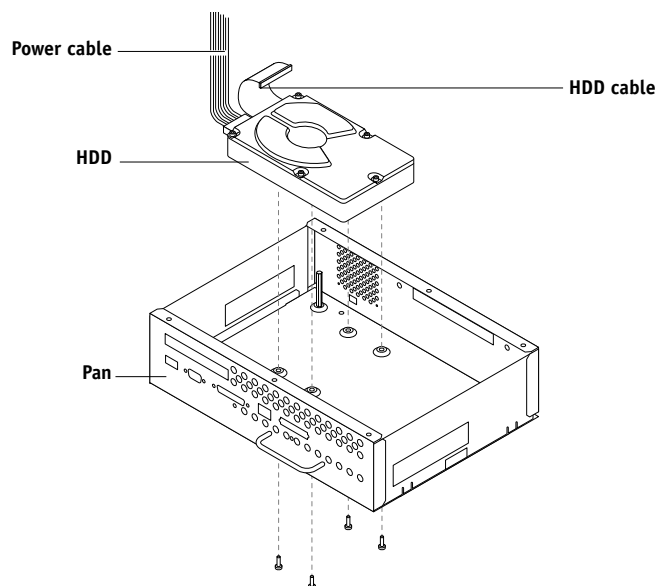

FIGURE 4-13 Replacing the HDD
2. Shut down the copier and access the E-700 as described on page 4-3.**3. Remove the HDD cable from E-700 board connector J28.****4. Remove the E-700 board from the pan (see "To remove the E-700 board" on page 4-9).****5. With the pan on its side, remove the four screws on the bottom of the pan that secure the HDD (see Figure 4-13).**
3. **With the pan on its side, align the four holes in the bottom of the HDD with the holes in the bottom of the pan and replace the four screws you removed earlier (see Figure 4-13 on page 4-20).**